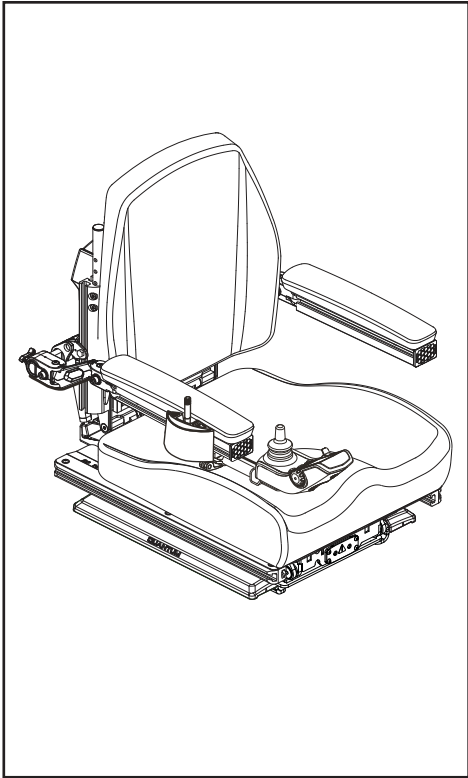

Figure 15. Power Elevating Seat Toggle Switch
1. Press forward on the toggle switch to raise the seat. **See figure 15.**